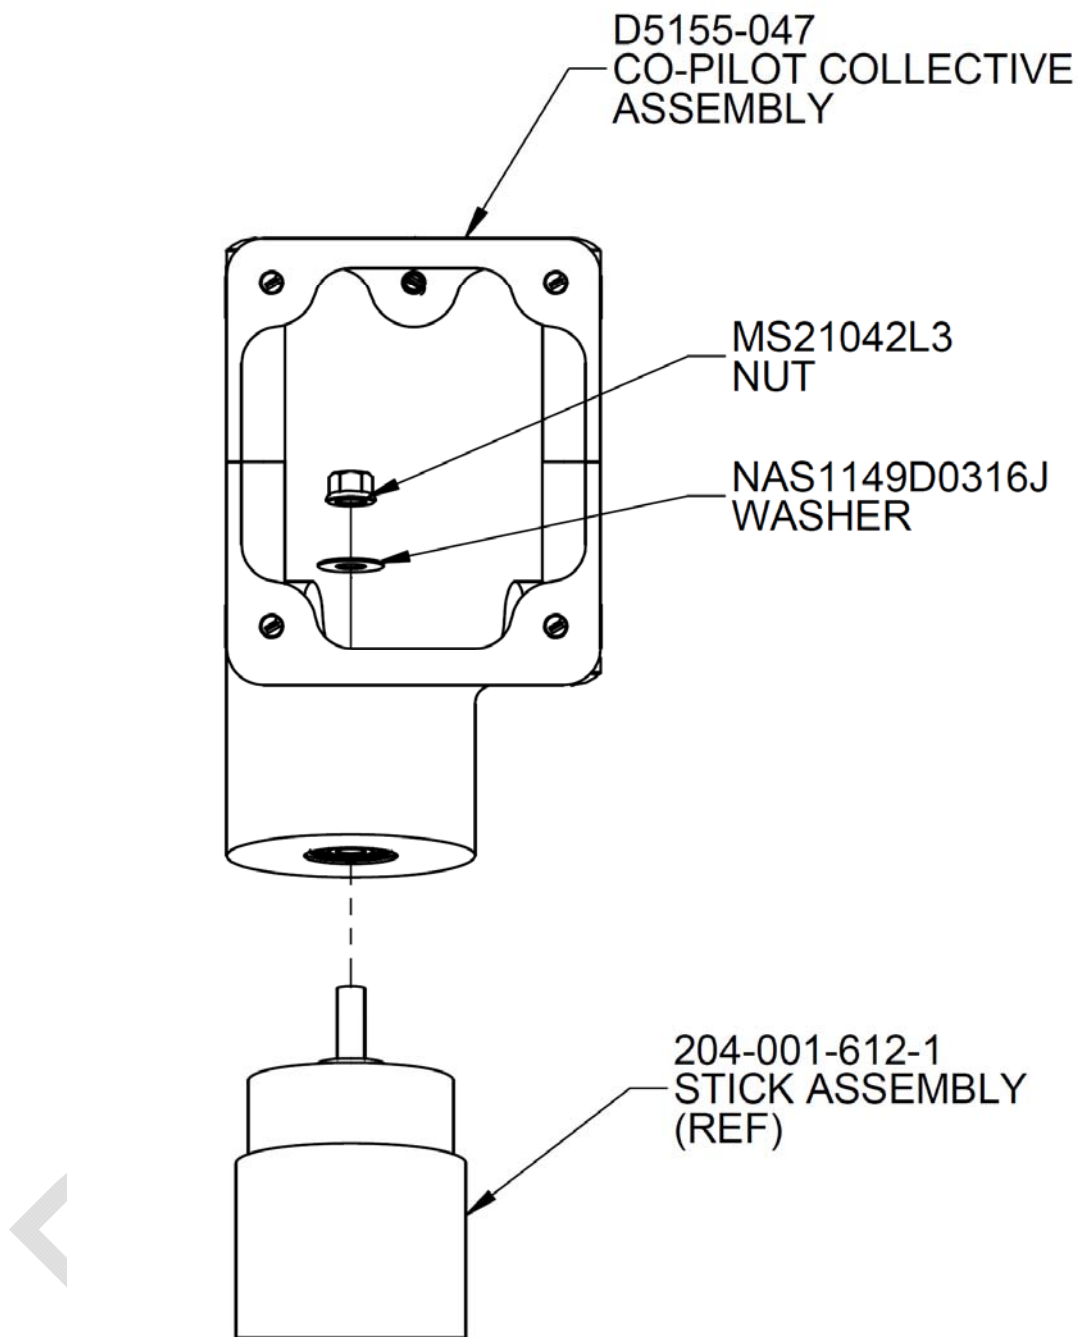

FIGURE 29: D205-803-221/-223 Co-Pilot Collective Head Installation
- 3.18.11 Install D5155-047 Co-Pilot Collective Head Assembly onto Stick Assembly (Bell p/n 204-001-612-1) per Figure 29. Torque nut per Table 1.